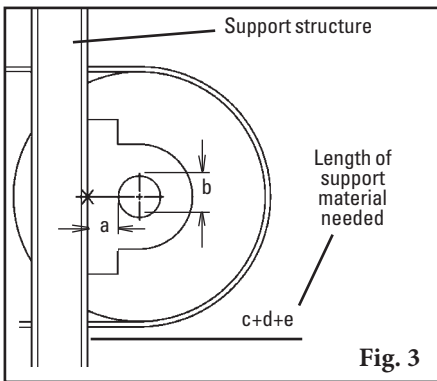

Fig. 3
5. **Cut chute opening.** Using the adjusted intersecting mark (“+”) established in Step 4, lay out and cut the required opening 125 x 150mm on the chute (Fig. 3). If access hole is required, see Step 7.
- a.) Measure from the back of the pulley shaft to the support structure (Fig. 3).
- 8c. Install an adjusting arm onto pole end.** Rotate the tensioner around the pole until the optimum mounting position is located. The J bolt mount can be located in any position 360° around the pole. The only requirement is that the J bolt and spring remain perpendicular to the adjusting arm (Fig. 3). **NOTE:** adjusting arm can be located any place along the end of the pole to align with J bolt mount.